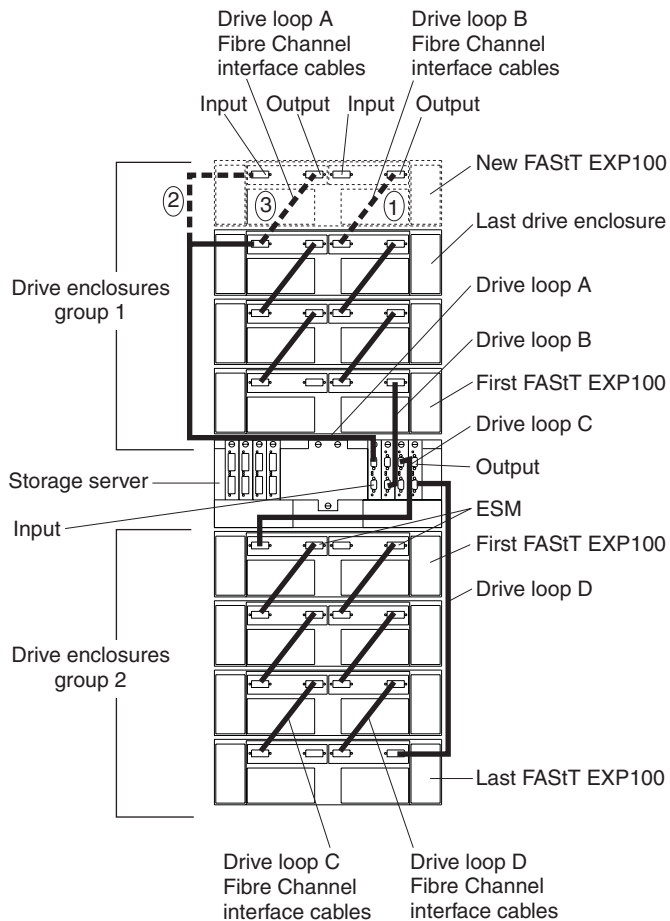

Figure 37. Cabling the FAST EXP100 to two redundant loops
Figure 37 shows an example of a FAST900 Storage Server configured with four drive loops. Drive loops A and B form one redundant fibre-channel loop. Drive loops C and D form the second redundant fibre-channel loop.
The dashed lines in Figure 37 show how to add a new FAST EXP100 to an existing FAST900 Storage Server configuration with FAST EXP100s. To add the new FAST EXP100 shown in Figure 37, you would perform the following steps:
1. Make the fibre-channel connection marked 1 in Figure 37 (drive loop B). Then power on the new FAST EXP100 and verify that it is recognized by the Storage Manager software GUI.
2. Make the fibre-channel connection marked 2 in Figure 37 on page 42.
3. Make the fibre-channel connection marked 3 in Figure 37 on page 42 (drive loop A).